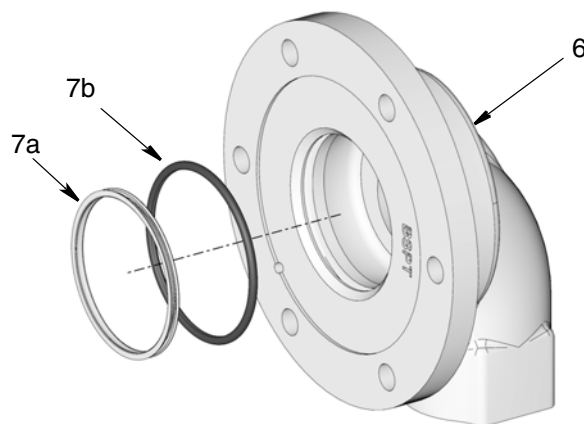

FIG. 3
3. Visually inspect inlet seal (7a) and o-ring (7b). Use your finger to feel surface of seal and o-ring for nicks. Replace these parts if damaged (FIG. 3).
- a. Use a pick to remove the white seal (7a) and black o-ring (7b) from the inlet assembly (6) (FIG. 3).